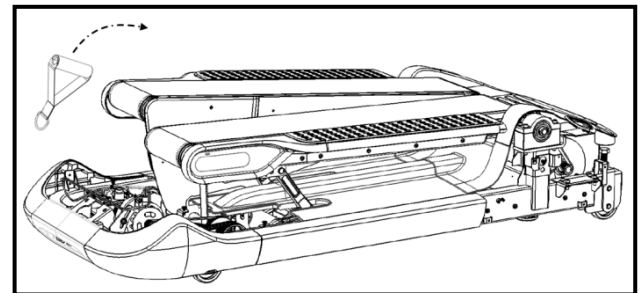

Fig.5
- Remove and store the transport grip handles (Fig. 5) once the TreadClimber base is safely on the floor. The transport grip handles can be reattached for future transport.